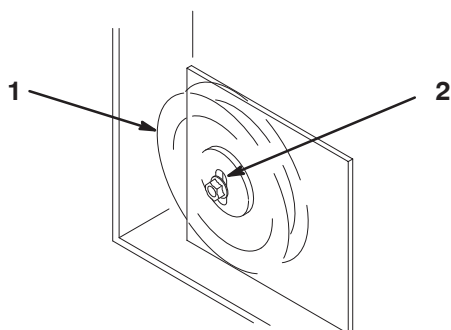

Figure 77
11. If the mower idler plate contacts the end of the adjustment slot and more belt tension is required, a small change to the right side fixed idler can create more belt tension adjustment (Fig. 77).